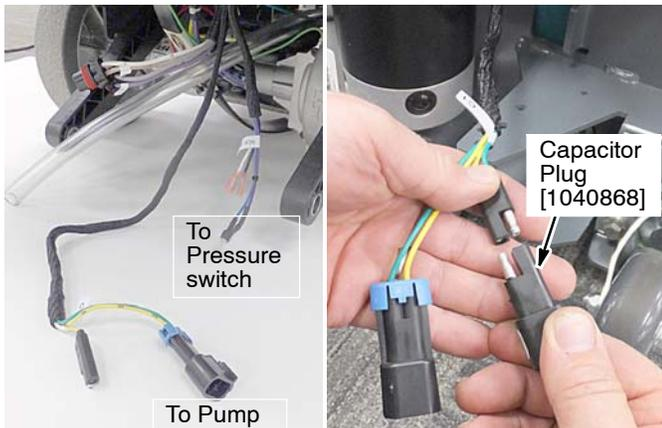

Fig. 42
- Route ec-H2O wire harness pump connector up over the transaxle motor towards the new ec-H2O pump. Connect the capacitor plug to harness (Figure 42).